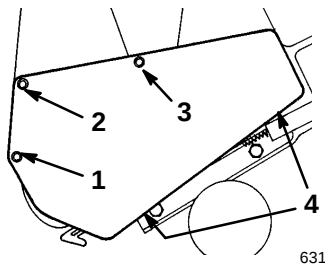

Figure 17
2. Remove three self tapping screws, two capscrews, one washer, and two locknuts that secure the belt cover to the snowthrower frame (Fig. 17). Set the drive belt cover aside.